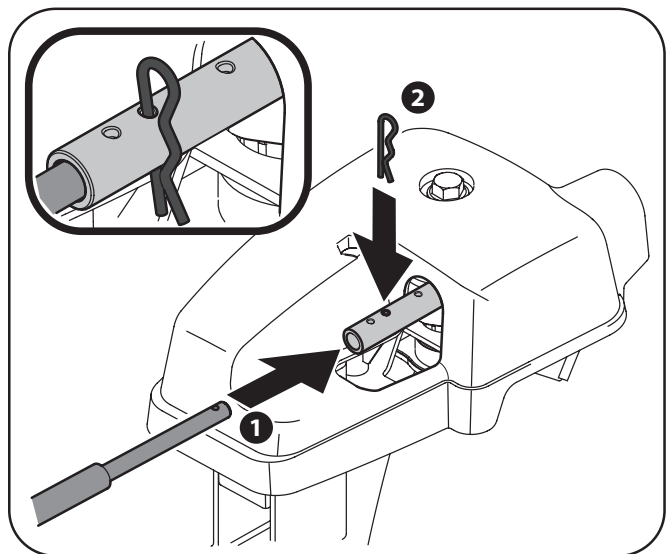

Figure 3-7
4. Push the chute control rod toward the control panel until the hole in the rod lines up with the middle hole in the chute control input and insert the cotter pin. See Figure 3-7.